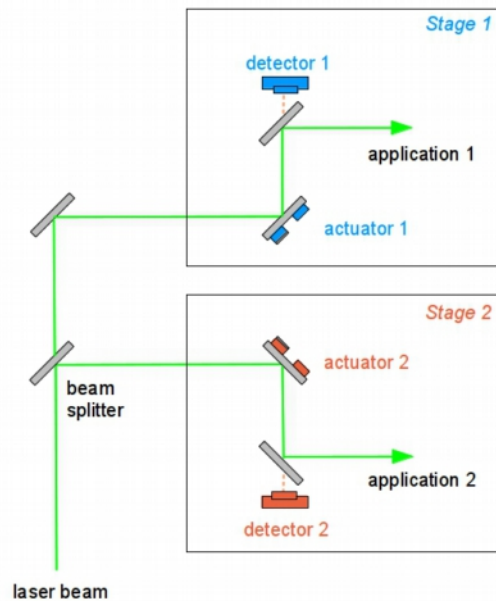

Figure 9e: Set-up of a 4-axes system used as two 2-axes systems. With this set-up the position of two independent lasers can be stabilised with one controller.
- Figure 9e finally shows a different arrangement where the 4-axes system is used as two 2-axes systems, i.e. the two stages of the controller are used to separately stabilise two independent beam lines.